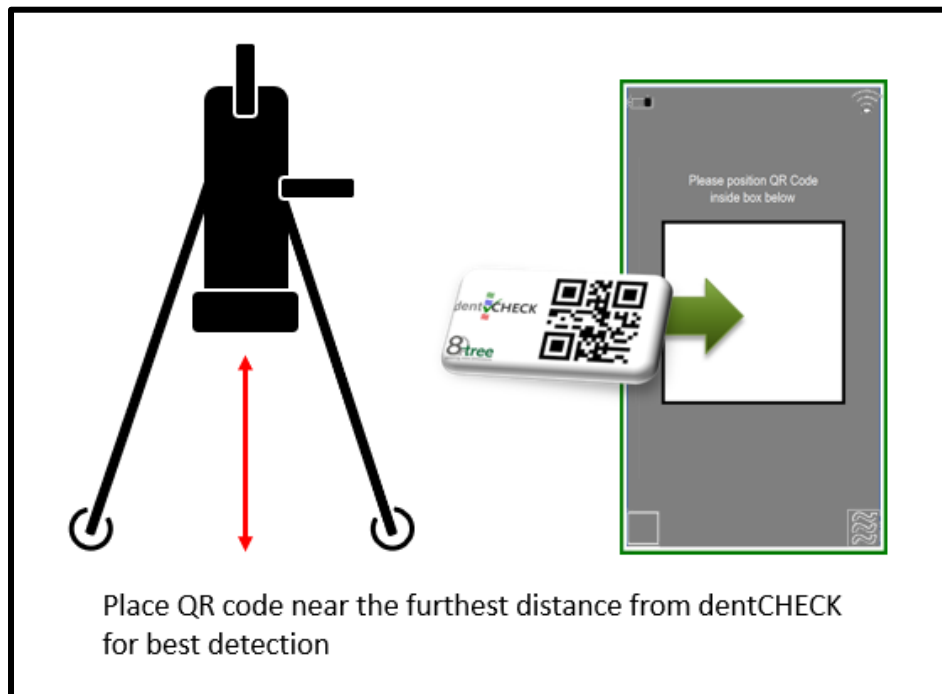

Figure 9
- Place the provided QR code that denotes Aircraft Zone A, within the white box projected by dentCHECK. (Figure 9)